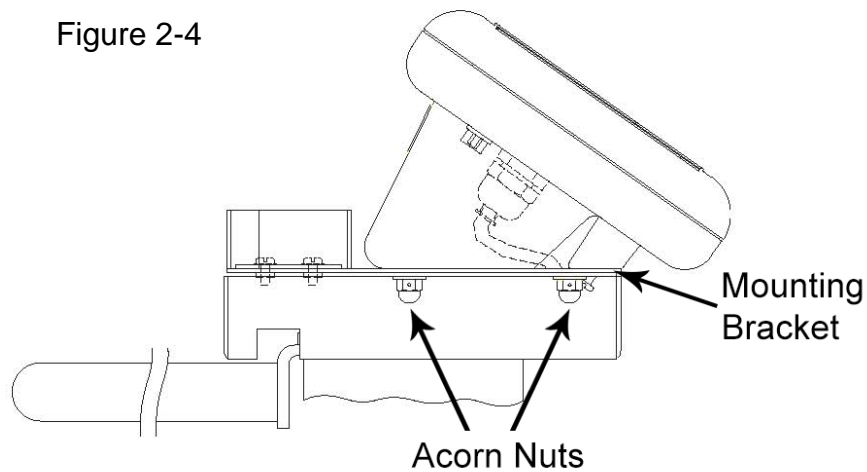

Figure 2-4
- D. When installing instrument assembly to plate and bracket, use acorn nuts. Remove feet from instrument. See figure 2-4.
- F. Place the instrument on top of the mounting bracket with the keypad/display facing the scale platform with mounting bracket cutout facing scale platform. Use the screws, washers, lock washers, and nuts to secure the instrument to the mounting bracket as shown in figure 2-4.